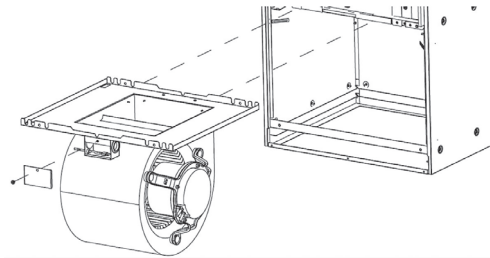

Fig.12
3. Remove the door that covers the small enclosure attached to the fan assembly (Fig.12). Unplug the motor and route the wire harness out of the enclosure.
4. Remove the (2) screws that secure the fan assembly and slide out.